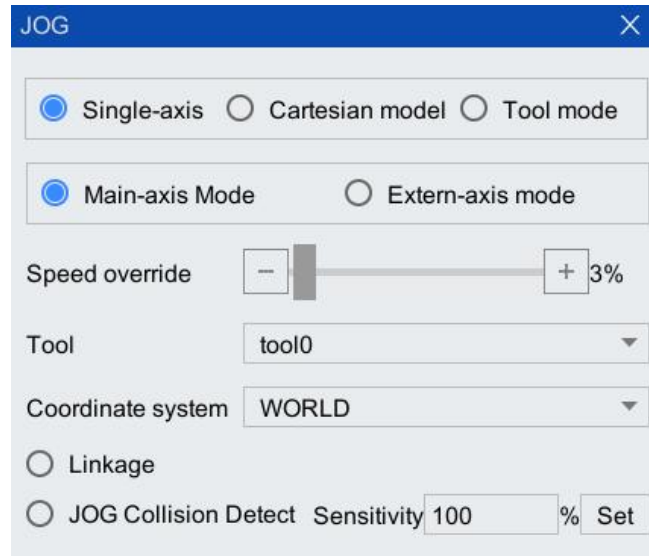

Figure 10-6 "JOG" Operation setting page
Step2. Click the [ CONT 3% ] button in the upper left corner of the main interface of the teach pendant, and the [JOG] operating parameter setting interface as shown in Figure 10-6 will pop up. Select the <JOG collision detection> option below, you can turn on the collision detection function in JOG mode.
Step3. Click the "Sensitivity" value setting box in Figure 10-6 to enter the sensitivity you want to set through the system soft keyboard. After the value is set, you need to click the <Set> button to make the sensitivity value effective.